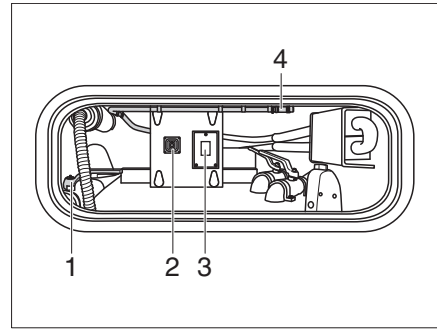

Fig. 354 Flushing the cassette of the macerator toilet (view in the storage box)
- Open the drain cock (Fig. 354,1).
- Press the switch (Fig. 354,3).
- Operate switch (Fig. 354,2) for the drainage pump.
- Remove the hose for tank cleaning (Fig. 354,4) in the storage box and connect it to a water connection.
- Remove the water connection after flushing and store the hose for tank cleaning (Fig. 354,4).
- Close the drain cock (Fig. 354,1).